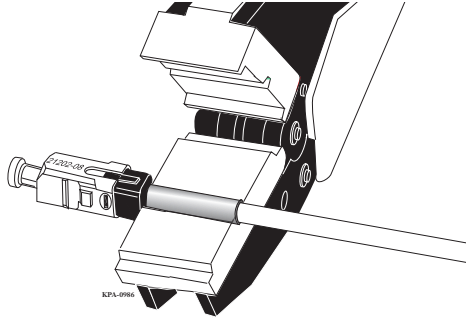

Figure 47 — Use UniCam Crimp Tool to Crimp Ring onto Connector
- Step 5:** Place the connector crimp ring into the opening of the crimp tool jaws (Figure 47).